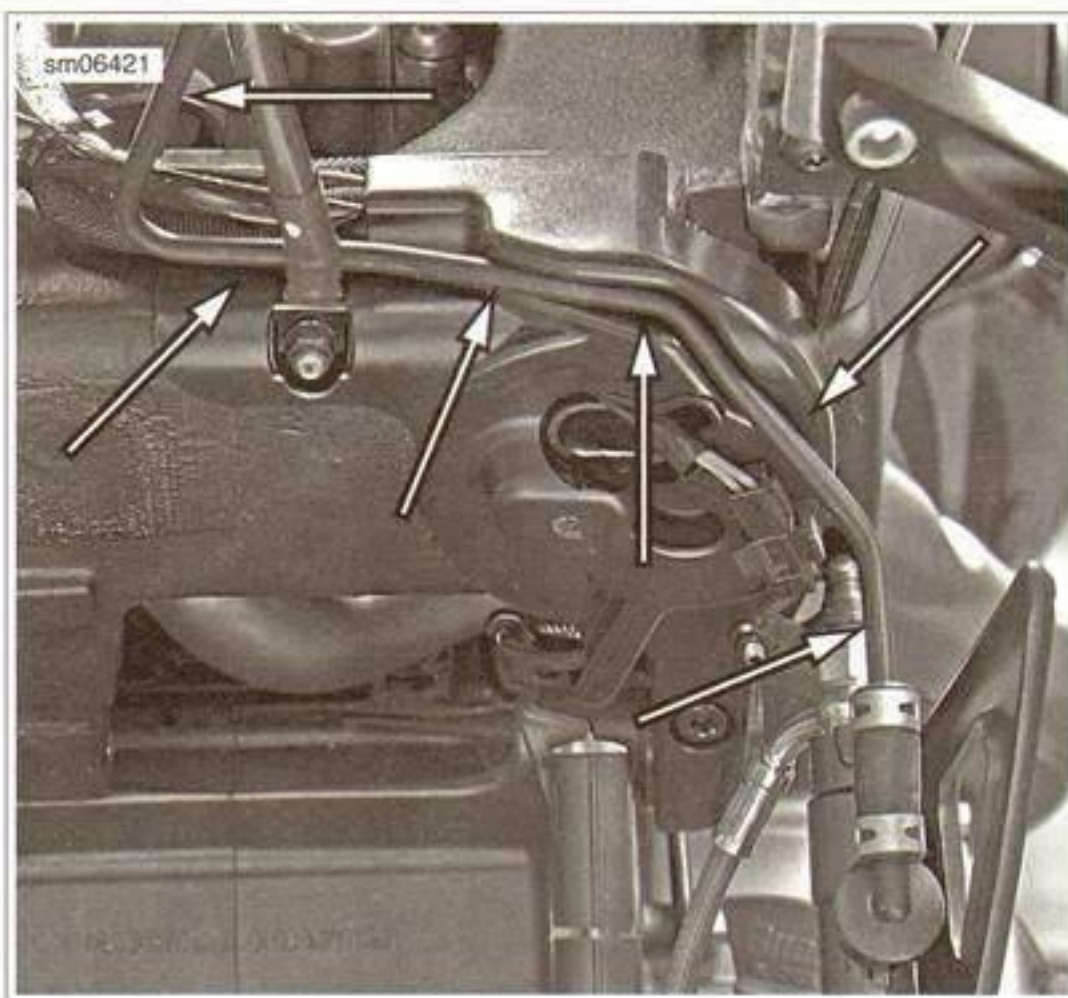

Figure 2-73. Brake Fluid Reservoir Line
3. See Figure 2-73. Lift the reservoir up and guide the brake fluid line from the fuel pump cover up through the sub-frame.